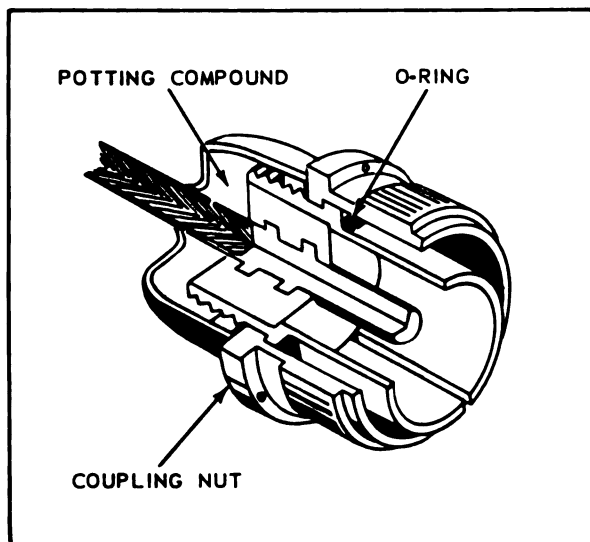

Figure 3-55. Installation of O-Ring on Potted Connector
l. If the plug does not have an O-ring or gasket seal on the barrel as shown in figure 3-55 then install an MS29513 O-ring selected from table 3-12. Roll O-ring tightly against shoulder of plug inside coupling ring. Plug barrel and O-ring must be clean and dry before assembly.